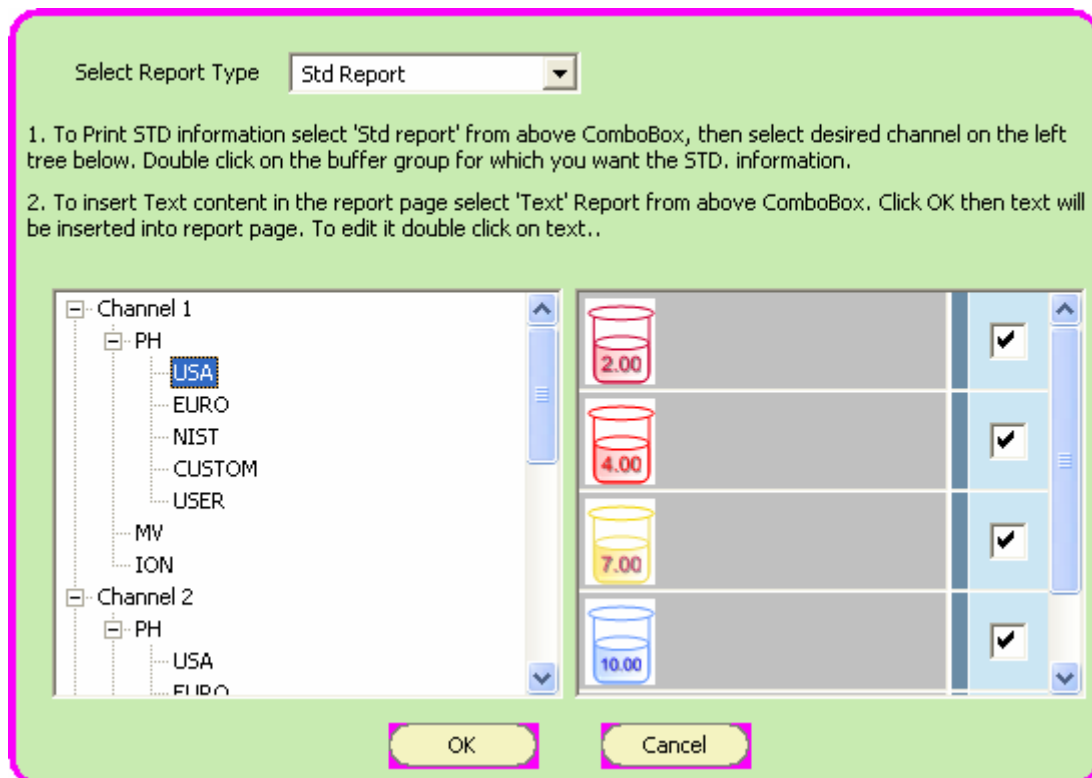

Figure 42 : Selecting standardization data
3. Click **Select** button in the workspace. A dialog box appears. (Figure 42)
1. Click **Select** button. A dialog box appears (Figure 42).
1. Click **Select** button. A dialog box appears (Figure 42)